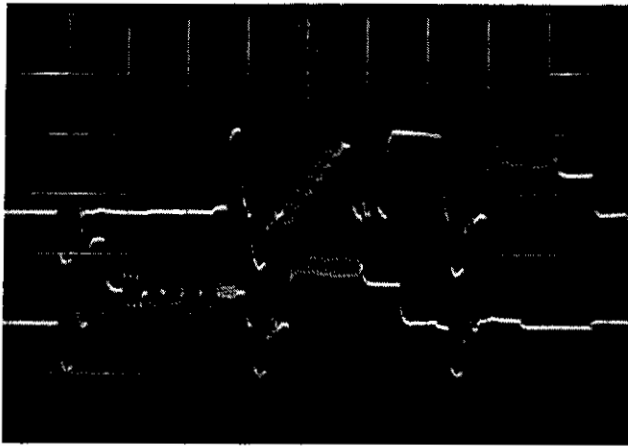

Fig. 20. Oscilloscope presentation of fields 1 and 2 of VITS information.
10. Pull the ◀▶ POS control outward to obtain an additional 5X magnification. Rotate the control in a counterclockwise direction moving the traces to the left until the expanded VITS information appears as shown in Fig. 20.
Fig. 20 shows the dual-trace presentation of the Field #1 and Field #2 VITS information. The Field #1 information is displayed on the trace.